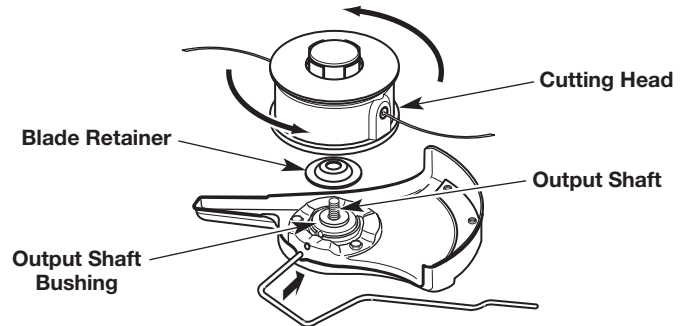

Fig. 12
4. While holding the locking rod in place, put the blade retainer on the output shaft with the flat surface against the output shaft bushing (Fig. 12).
5. Screw the cutting head counterclockwise onto the output shaft (Fig. 12). Tighten the cutting head securely.